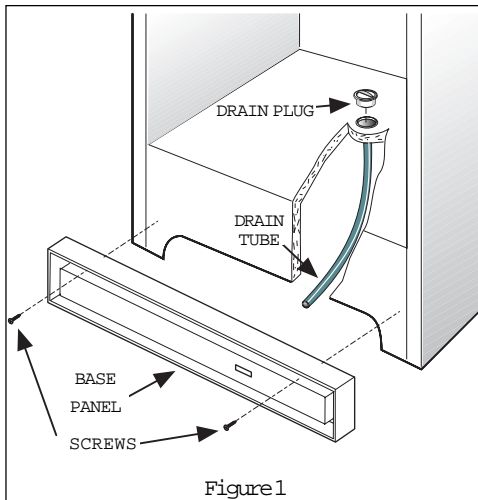

Figure 1
- **On upright models** with a defrost drain (Figure 1), remove drain plug on the inside floor of the freezer by pulling straight out. To access external drain tube on models with a base panel, first remove the two screws from the base panel. Locate the drain tube near the left center under the freezer. Place a shallow pan under the drain tube. Defrost water will drain out. Check pan occasionally so water does not overflow. A 1/2 inch garden hose adaptor can be used to drain the freezer directly into a floor drain. If your model is not equipped with an adaptor, one can be purchased at most hardware stores. Replace the drain plug when defrosting and cleaning are completed. If the drain is left open, warm air may enter freezer.